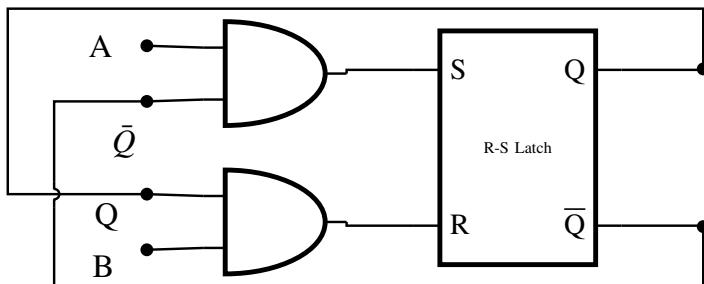

Fig. 5.35
40. The two inputs A and B are connected to an R-S latch via two AND gates as shown in Fig. 5.35. If $A = 1$ and $B = 0$, the output $Q\bar{Q}$ is